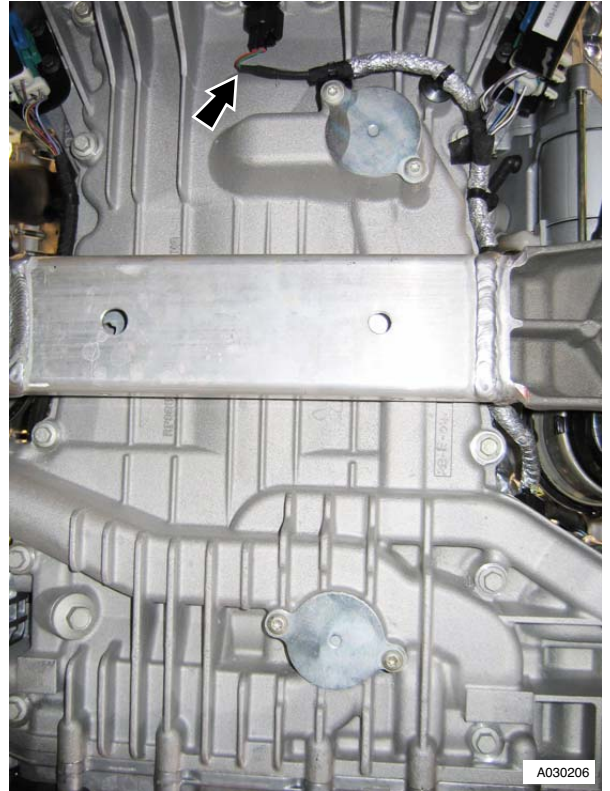

Figure 7
15. Disconnect multiplug from crankshaft timing sensor (see Figure 7).